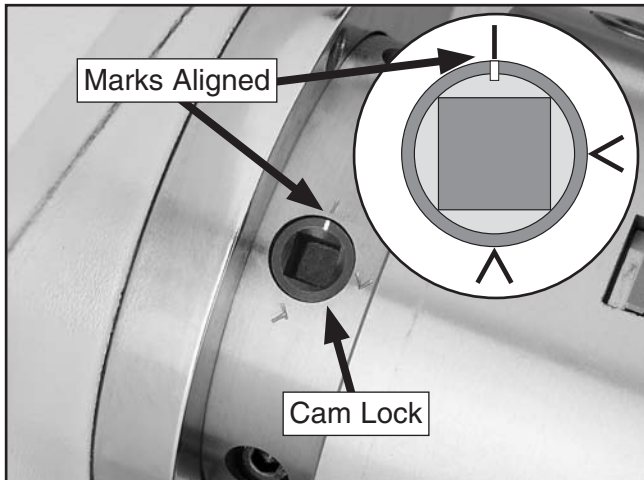

Figure 24. Cam-lock loosened with the mark aligned with single mark on the spindle nose.
3. One at a time, use the spindle lock key to turn the three cam-locks counterclockwise until the marks on the cam-locks align with the single marks on the spindle nose, as shown in **Figure 24**. As you turn the cam-locks, they will rise slightly up from the spindle nose.